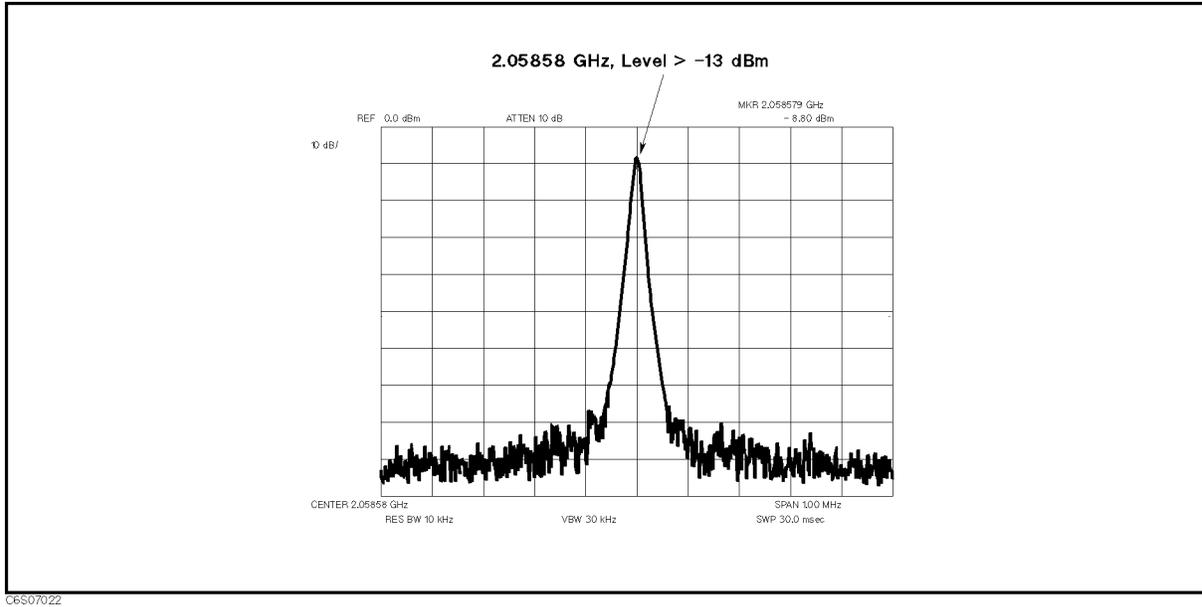

Figure 7-18. Typical 2.05858 GHz Signal
- f. Check that the frequency is 2.05858 GHz and the level is higher than -13 dBm. The displayed trace should be as shown in Figure 7-18.